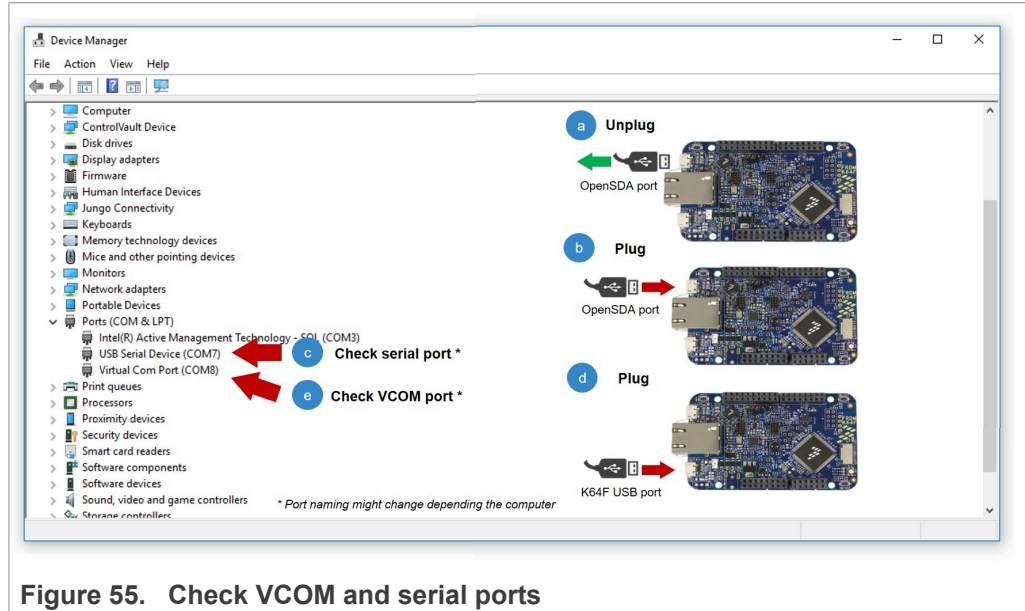

Figure 55. Check VCOM and serial ports
5. The serial and VCOM ports should be recognized by your Device Manager. To check that the ports are recognized, follow the steps indicated in Figure 55: